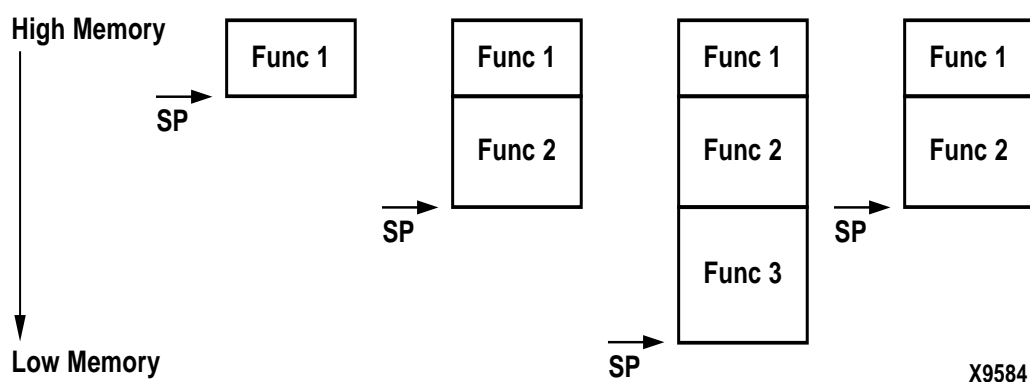

Figure 4-1: Stack Frame
Consider an example where Func1 calls Func2, which in turn calls Func3. The stack representation at different instances is depicted in Figure 4-1. After the call from Func 1 to Func 2, the value of the stack pointer (SP) is decremented. This value of SP is again decremented to accommodate the stack frame for Func3. On return from Func 3 the value of the stack pointer is increased to its original value in the function, Func 2.
Details of how the stack is maintained are shown in Figure 4-1.
Refer to Figure 4-1. The parameters for Func 2 are stored either in the registers R5 through R10 or on the stack frame allocated for Func 1.